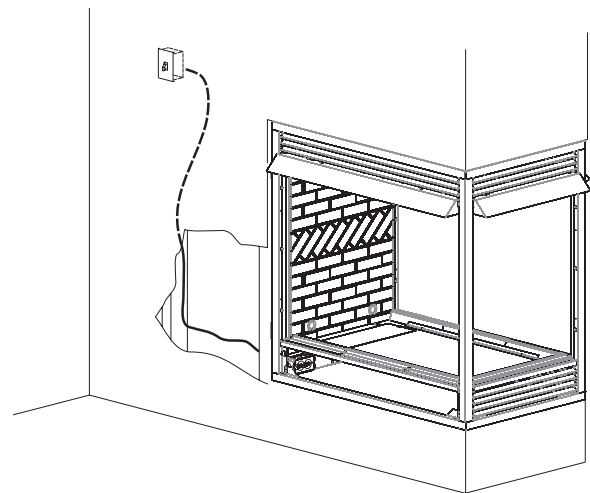

Figure 15 - Flush Or Louvered Models
To install the blower kit, access the junction box, or install a light kit, remove the access cover plate and/or lower louvers or flush panels as illustrated by **Figures 15 and 16**.
3. Determine which type of firebox you have prior to installation. **See Figures 15 and 16**
13. Replace blower access plate and louvers or flush panels. **See Figures 15 and 16.**